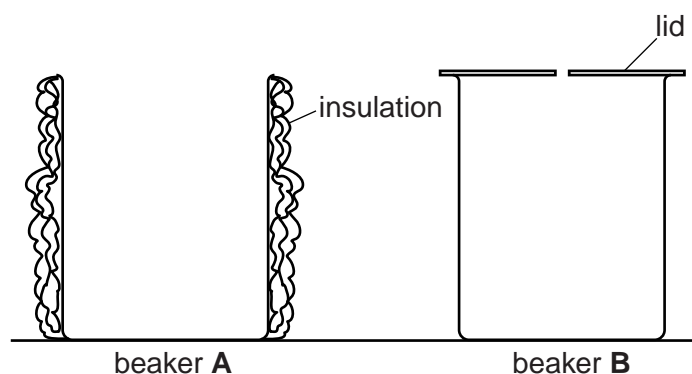

Fig. 2.1
1. The beakers should be supplied as shown in Fig. 2.1.